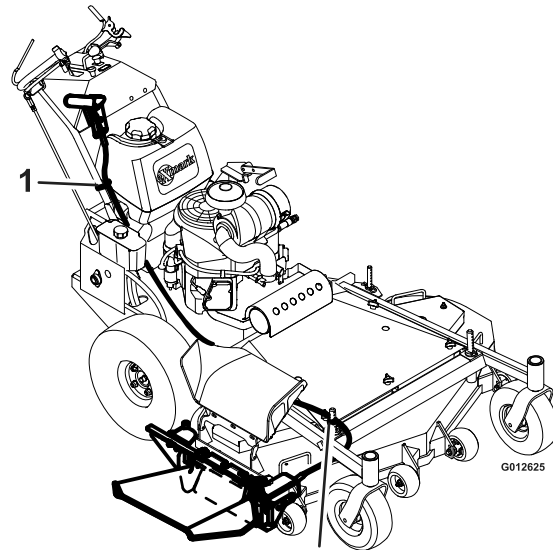

Figure 10
- H. Use velcro straps to secure the cable as shown in Figure 10.